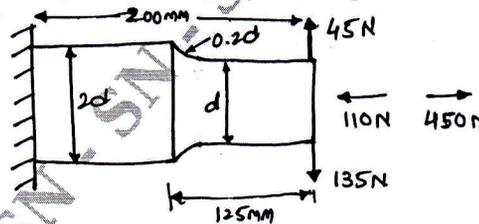

Fig.Q4
- 4 A steel cantilever member shown in Fig.Q4 is subjected to a transverse load at its end that varies from 45 N (up) to 135 N (down) and axial load varies from 110 N (compression) to 450 N (tension). Determine the required diameter at the change of section for infinite life using a factor of safety 2. The strength properties of the material are $\sigma_u = 550 \text{ MPa}$, $\sigma_y = 470 \text{ MPa}$, $\sigma_{-1} = 275 \text{ MPa}$, notch sensitivity index, $q = 1$.